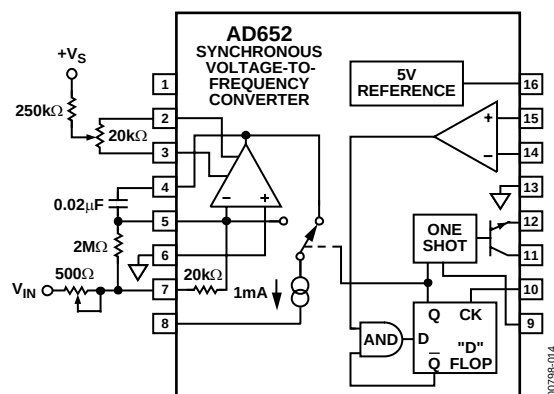
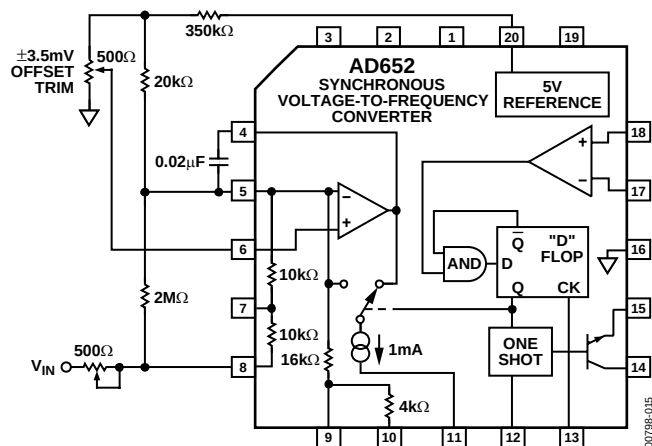

Figure 14. Cerdip Gain and Offset Trim
Figure 15. PLCC Gain and Offset Trim
The gain error of the AD652 is laser trimmed to within  $\pm 0.5\%$ . If higher accuracy is required, the internal 20 k $\Omega$  resistor must be shunted with a 2 M $\Omega$  resistor to produce a parallel equivalent that is 1% lower in value than the nominal 20 k $\Omega$ . Full-scale adjustment is then accomplished using a 500  $\Omega$  series trimmer. See Figure 14 and Figure 15. When negative input voltages are used, this 500  $\Omega$  trimmer is tied to ground and Pin 6 is the input pin.
The offset of the op amp may be trimmed to zero with the trim scheme shown in Figure 14 for the Cerdip package and Figure 15 for the PLCC package. One way of trimming the offset is by grounding Pin 7 (8) of the Cerdip (PLCC) device and observing the waveform at Pin 4. If the offset voltage of the op amp is positive, the integrator has saturated and the voltage is at the positive rail. If the offset voltage is negative, there is a small effective input current that causes the AD652 to oscillate; a sawtooth waveform is observed at Pin 4. The potentiometer should be adjusted until the downward slope of this sawtooth becomes very slow, down to a frequency of 1 Hz or less. In an analog-to-digital conversion application, an easier way to trim the offset is to apply a small input voltage, such as 0.01% of the full-scale voltage, and adjust the potentiometer until the correct digital output is reached.